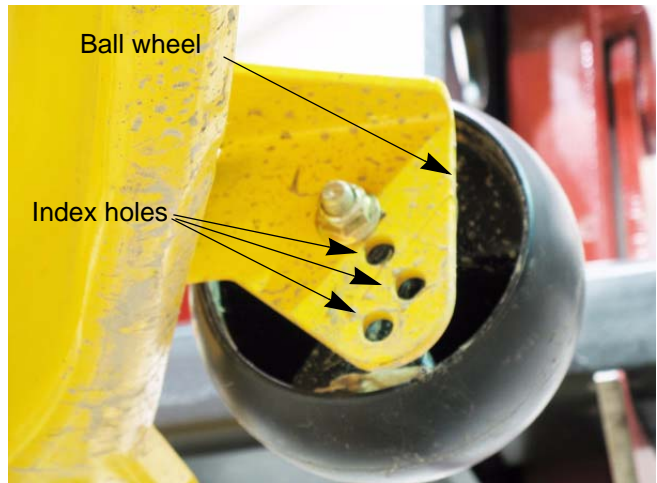

Figure 8.33
4. Reposition the wheel to align with the one of four index holes that places the wheel 1/4" to 1/2" above the ground. See Figure 8.33.